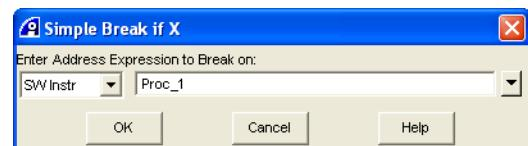

Figure 11-40 Simple Break if X dialog box
4. Select **Debug → Breakpoints → Conditional → Break if X...** from the Code windows main menu to display the Simple Break if X dialog box. Figure 11-40 shows an example: